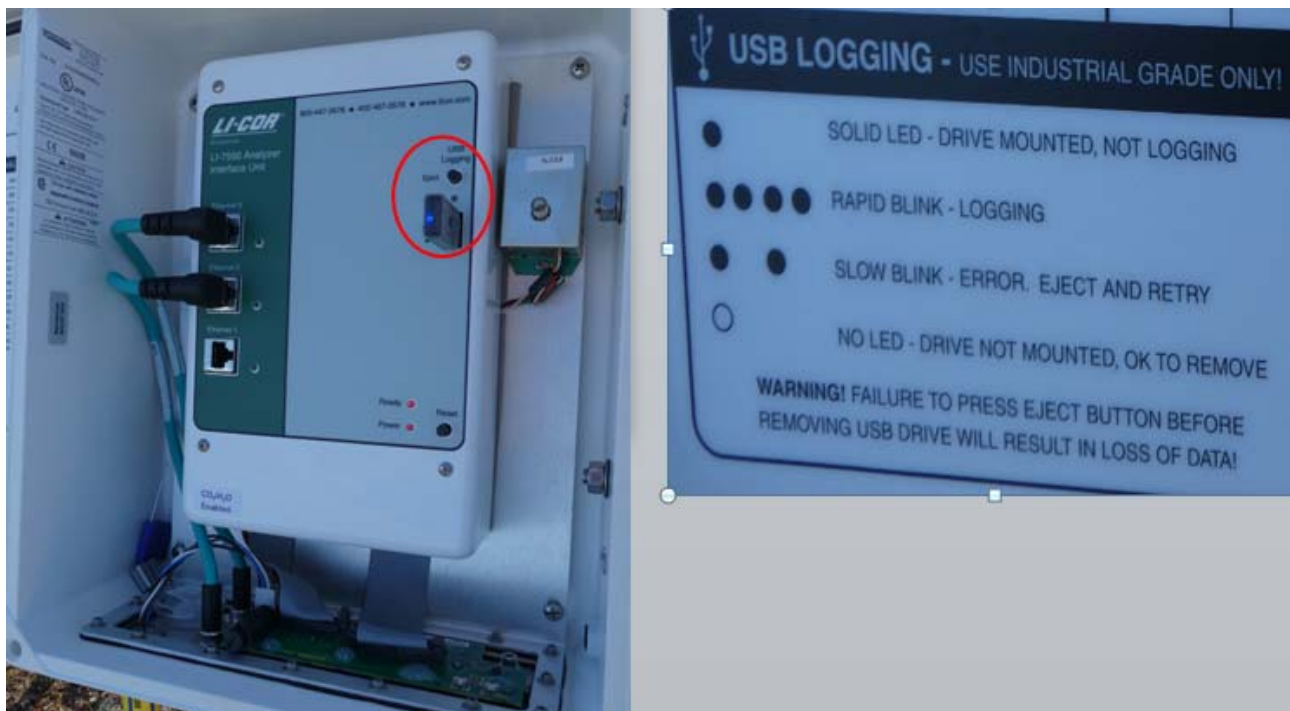

Figure 3.6 Position of the USB in the Analyzer Interface Unit LI-7550 (left) and info about the LED blinking
2. After the USB is removed, replace it with another formatted Licor USB stick. When the formatted USB is inserted keep an eye on the LED light until the light indicates logging. It may take a short time (within seconds) while tables are created. When light starts to blink rapidly it indicates that the system has started logging. If logging does not start after a while then the LED will indicate error (figure 3.6). Try to eject and re-insert. If this does not work the system/station may need to be restarted (follow section 3.3 to power off system and section 3.4 to re-launch system)
The infrared gas analyzers (IRGA) need regular check and maintenance. To check that the instrument is functioning properly, one needs to have access to the analyzer via direct connection with a computer. In Østerlien, the analyzer interface unit is continuously connected to the computer in the garage. Thus the analyzer readings can be checked at any time on the computer screen, on the main window of the LICOR software (and the computer in the garage can be accessed via TeamViewer). Alternatively, it is possible to connect to the station in the field via the free Ethernet port in the Licor Analyzer Interface Unit (Figure 3.6)